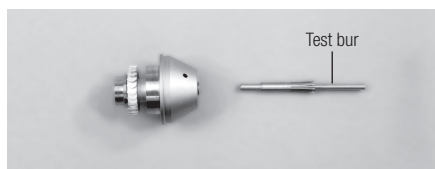

Fig. 20
- 1) Apply oil thinly on the surface of the new chuck or the chuck after cleaning, insert the test bur and push into the rotor shaft (Fig.20).